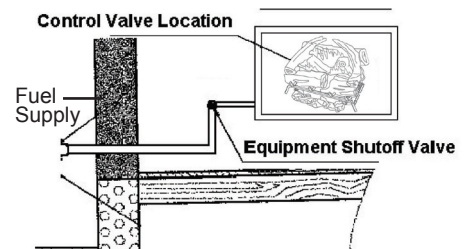

Figure 18 Checking Gas Joints
3. Check all joints from gas tank to equipment shutoff valve (see Figure 18). Apply mixture of liquid soap and water to gas joints. Bubbles forming show a leak.
4. Check all joints from equipment shutoff valve to control valve (see Figure 18). Apply mixture of liquid soap and water to gas joints. Bubbles forming show a leak.